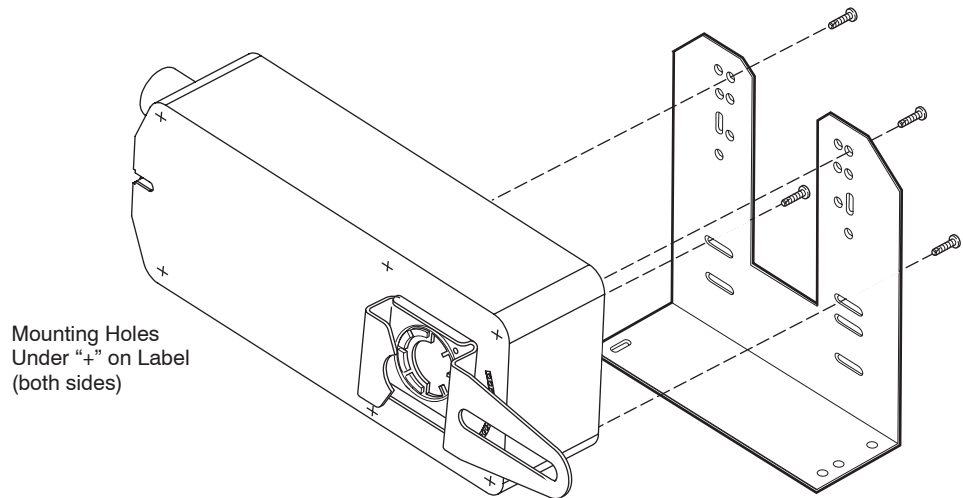

Figure-8 Installation of Universal Mounting Bracket AM-760.
2. Locate the pre-drilled mounting holes on the actuator label that are covered by a white "+" sign (See Figure-8).
4. Use the #10 self-tapping screws to secure the actuator to the mounting bracket (See Figure-8).